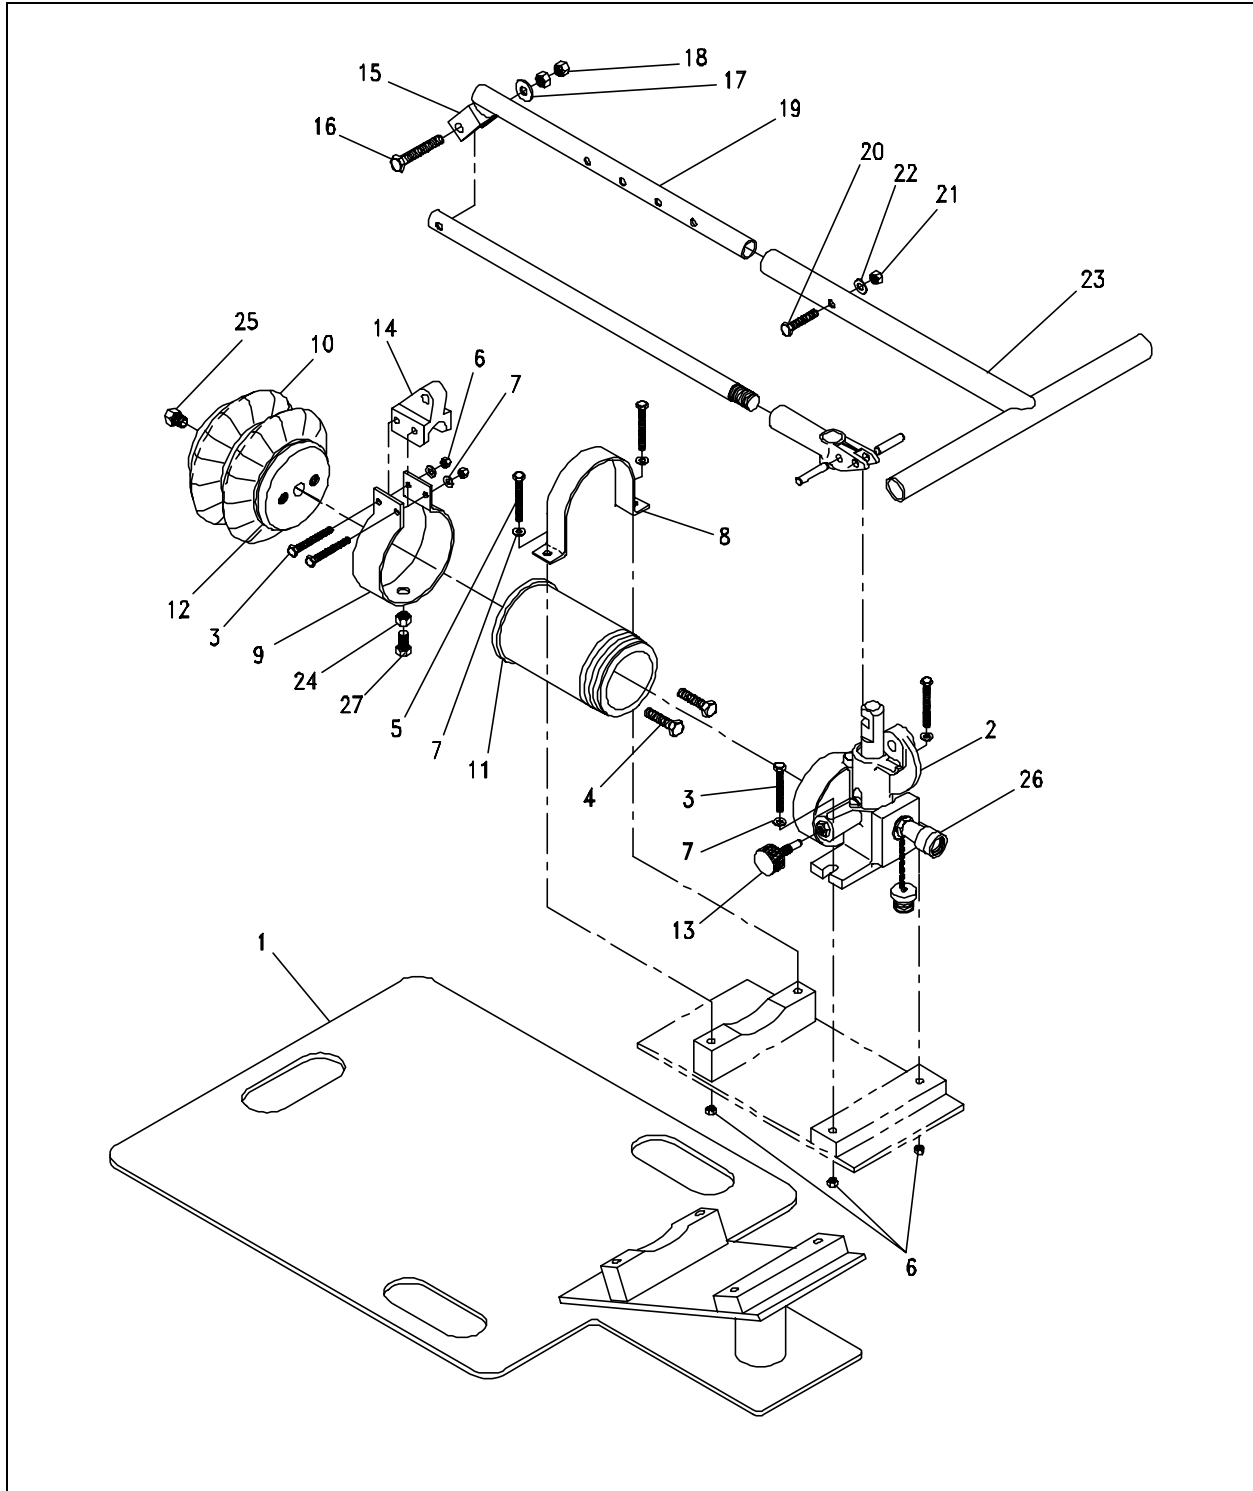

Figure A-2. Diver Operated Pump Assembly, NAVSEA Components (Sheet 1).
- b. Replace release valve packing (22). On P-80-3 model, install release valve ball (not shown). Install release valve packing (22), release valve packing nut (21), and release valve spindle (20).
- c. Install oil strainer screen (19).
- d. On P-80-2 and P-80-3 models only, replace gasket (18) and install relief valve (17).
- e. Replace gasket (9) on safety valve (16). Install safety valve (16).
- f. Replace gasket (9) on bypass valve (15). Install bypass valve (15).
- g. Insert ball (13) and ball (12) in opening of pump head (29) next to release valve. Insert spring (11) and ball spacer (10). Install valve plug (8) with gasket (9).
- h. Insert ball (13) and ball (12) in opening of pump head (29) away from release valve. Insert spring (11). Install valve plug (14) with gasket (9).
- i. Replace packing O-ring (7), backup ring (6), and wiper ring (5) and assemble on pump plunger (4). For P-80-1 pump, also assemble packing nut (30), packings (31), spacer (32), pump cups (33), and spreader (34) on pump plunger (4). Install plunger into opening in pump head (29).
- j. Install reservoir tube (11, Figure A-2) and bladder (10) on pump head (2).
- k. Connect female hose coupler to pump head (2).
- l. Add hydraulic fluid to pump, and install plug (25).
- m. Mount pump on base plate (1).
- a. Figure A-2 illustrates the NAVSEA pump components.